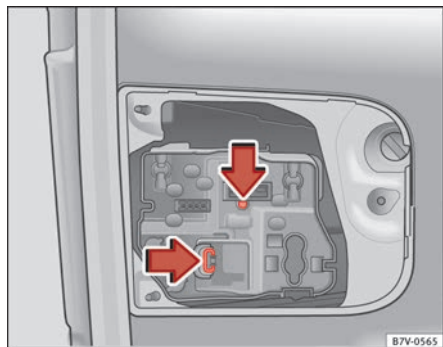

Fig. 210 On the boot lid:
5. Press on the attachment tabs in the direction of the arrow ⇒ fig. 210 and pull out the lamp holder.